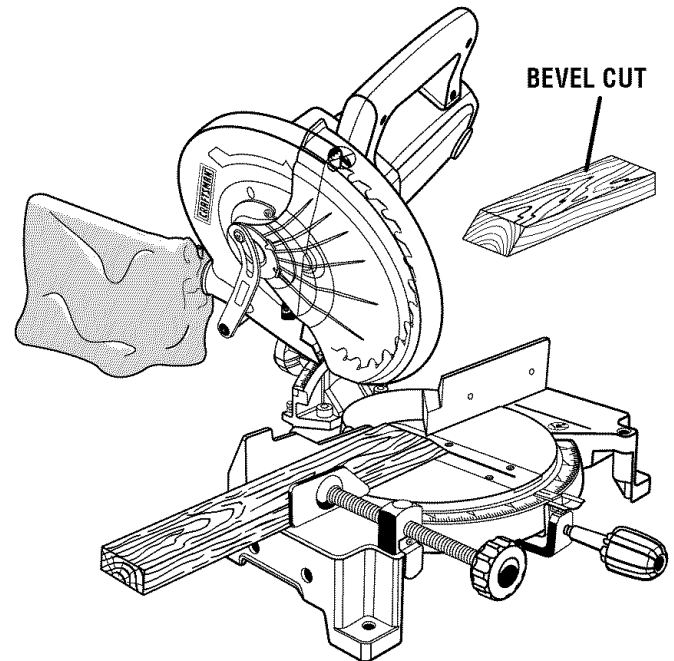

Fig. 28
- Grasp the stock firmly with one hand and secure it against the fence or use the optional work clamp or a C-clamp to secure the workpiece. *See Figure 28.*
- Slowly lower the blade into and through the workpiece. *See Figure 28.*